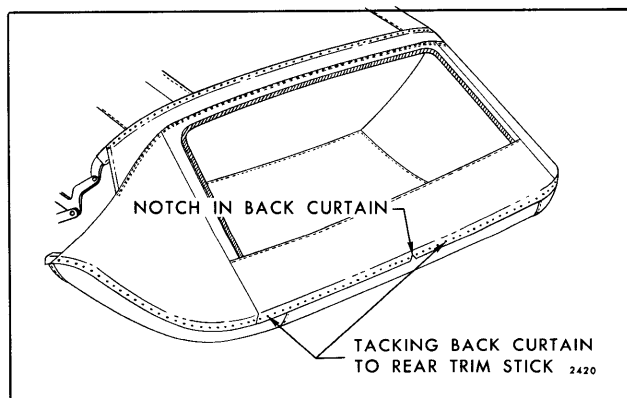

Fig. 13-13—Back Curtain Installation
3. Trim selvage end of side stay pads just forward of rear rolled edge of rear roof bow (Fig. 13-13).
NOTE: Notch in back curtain material at lower edge indicates centerline of back curtain assembly (Fig. 13-13). In addition, back curtain lower edge should extend approximately 1/2" below lower edge of trim sticks.
8. Tack curtain to rear trim sticks (Fig. 13-13).